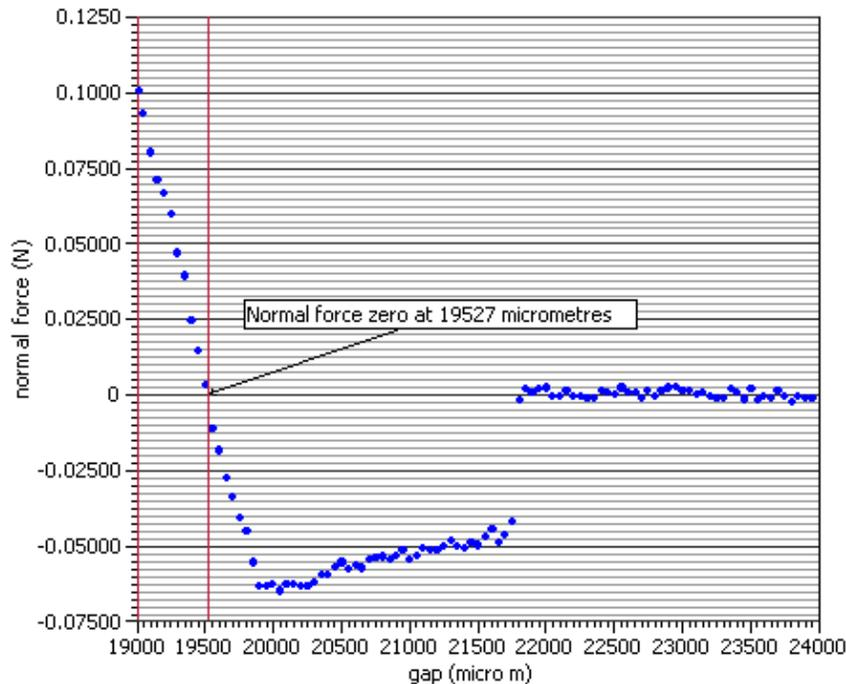

Figure 9.5
6. Plot the results as normal force versus gap. When the geometry is at the interface, the normal force passes through zero. To establish this point, the graph grid and cursors can be used, as shown in Figure 9.5.